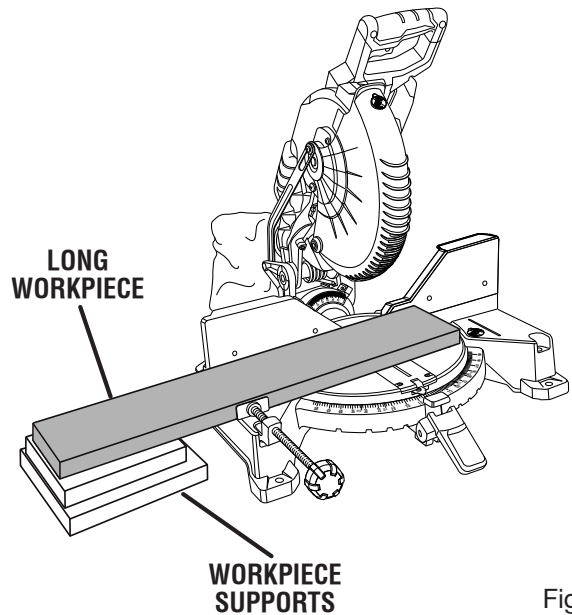

Fig. 30
- When cutting long pieces of lumber or molding, support the opposite end of the stock with a roller stand or with a work surface level with the saw table. See Figure 30.
See Figure 30.